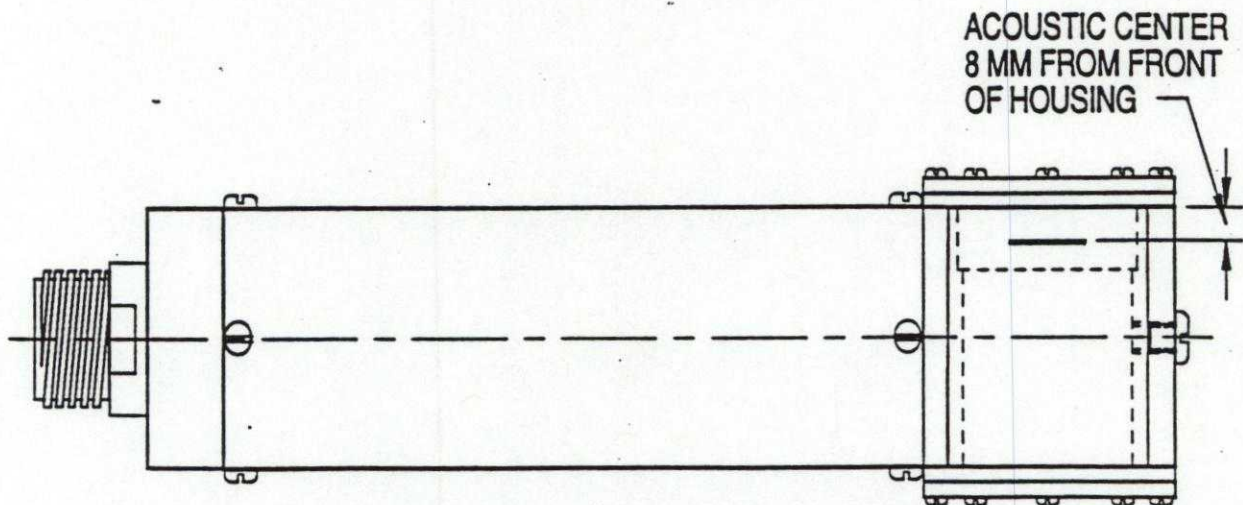

Fig. E37-6 Acoustic center of USRD Type E37 transducer.
ACOUSTIC CENTER: See Fig. E37-6
- See Fig. E37-6 for acoustic center.